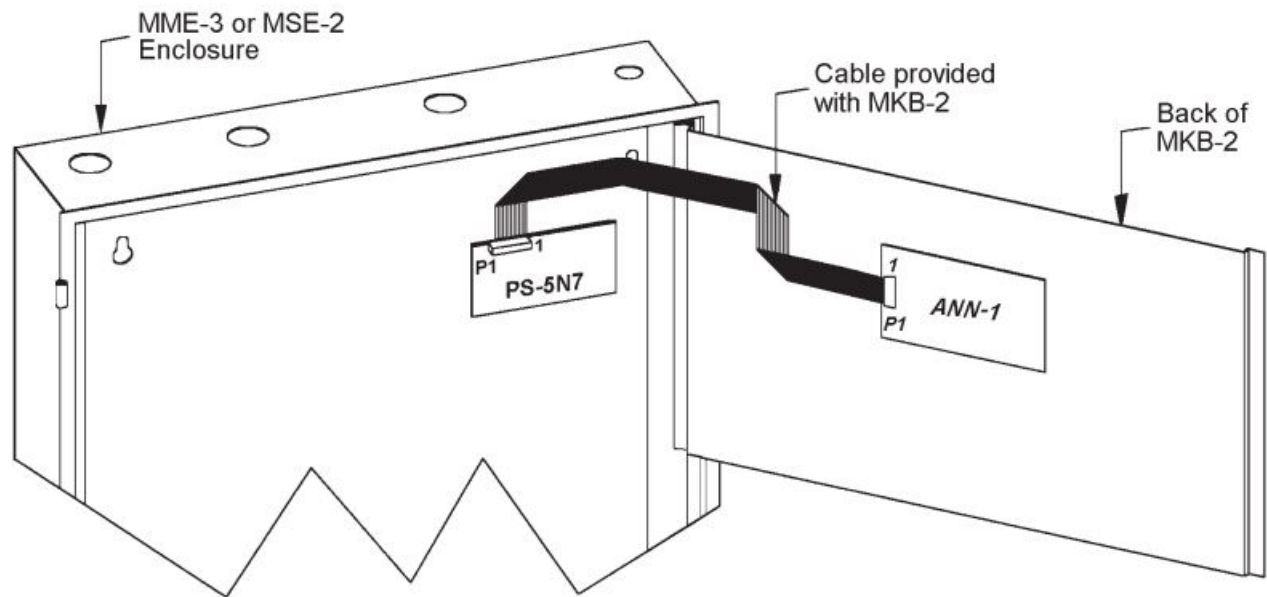

Figure 1
1. MME-3—Install in the upper right-hand corner (See Figure 1).
2. MSE-2—Install in the upper right-hand corner (See Figure 1).
Four male/female standoffs are provided in each backbox in the correct location for installing the PS-5N7. Place the PS-5N7 over the existing female standoffs. Fasten it, using the threaded portion of the standoffs as screws. Use the cable provided (See Figures 1 and 2) to connect P1 on the PS-5N7 to P1 on the ANN-1.